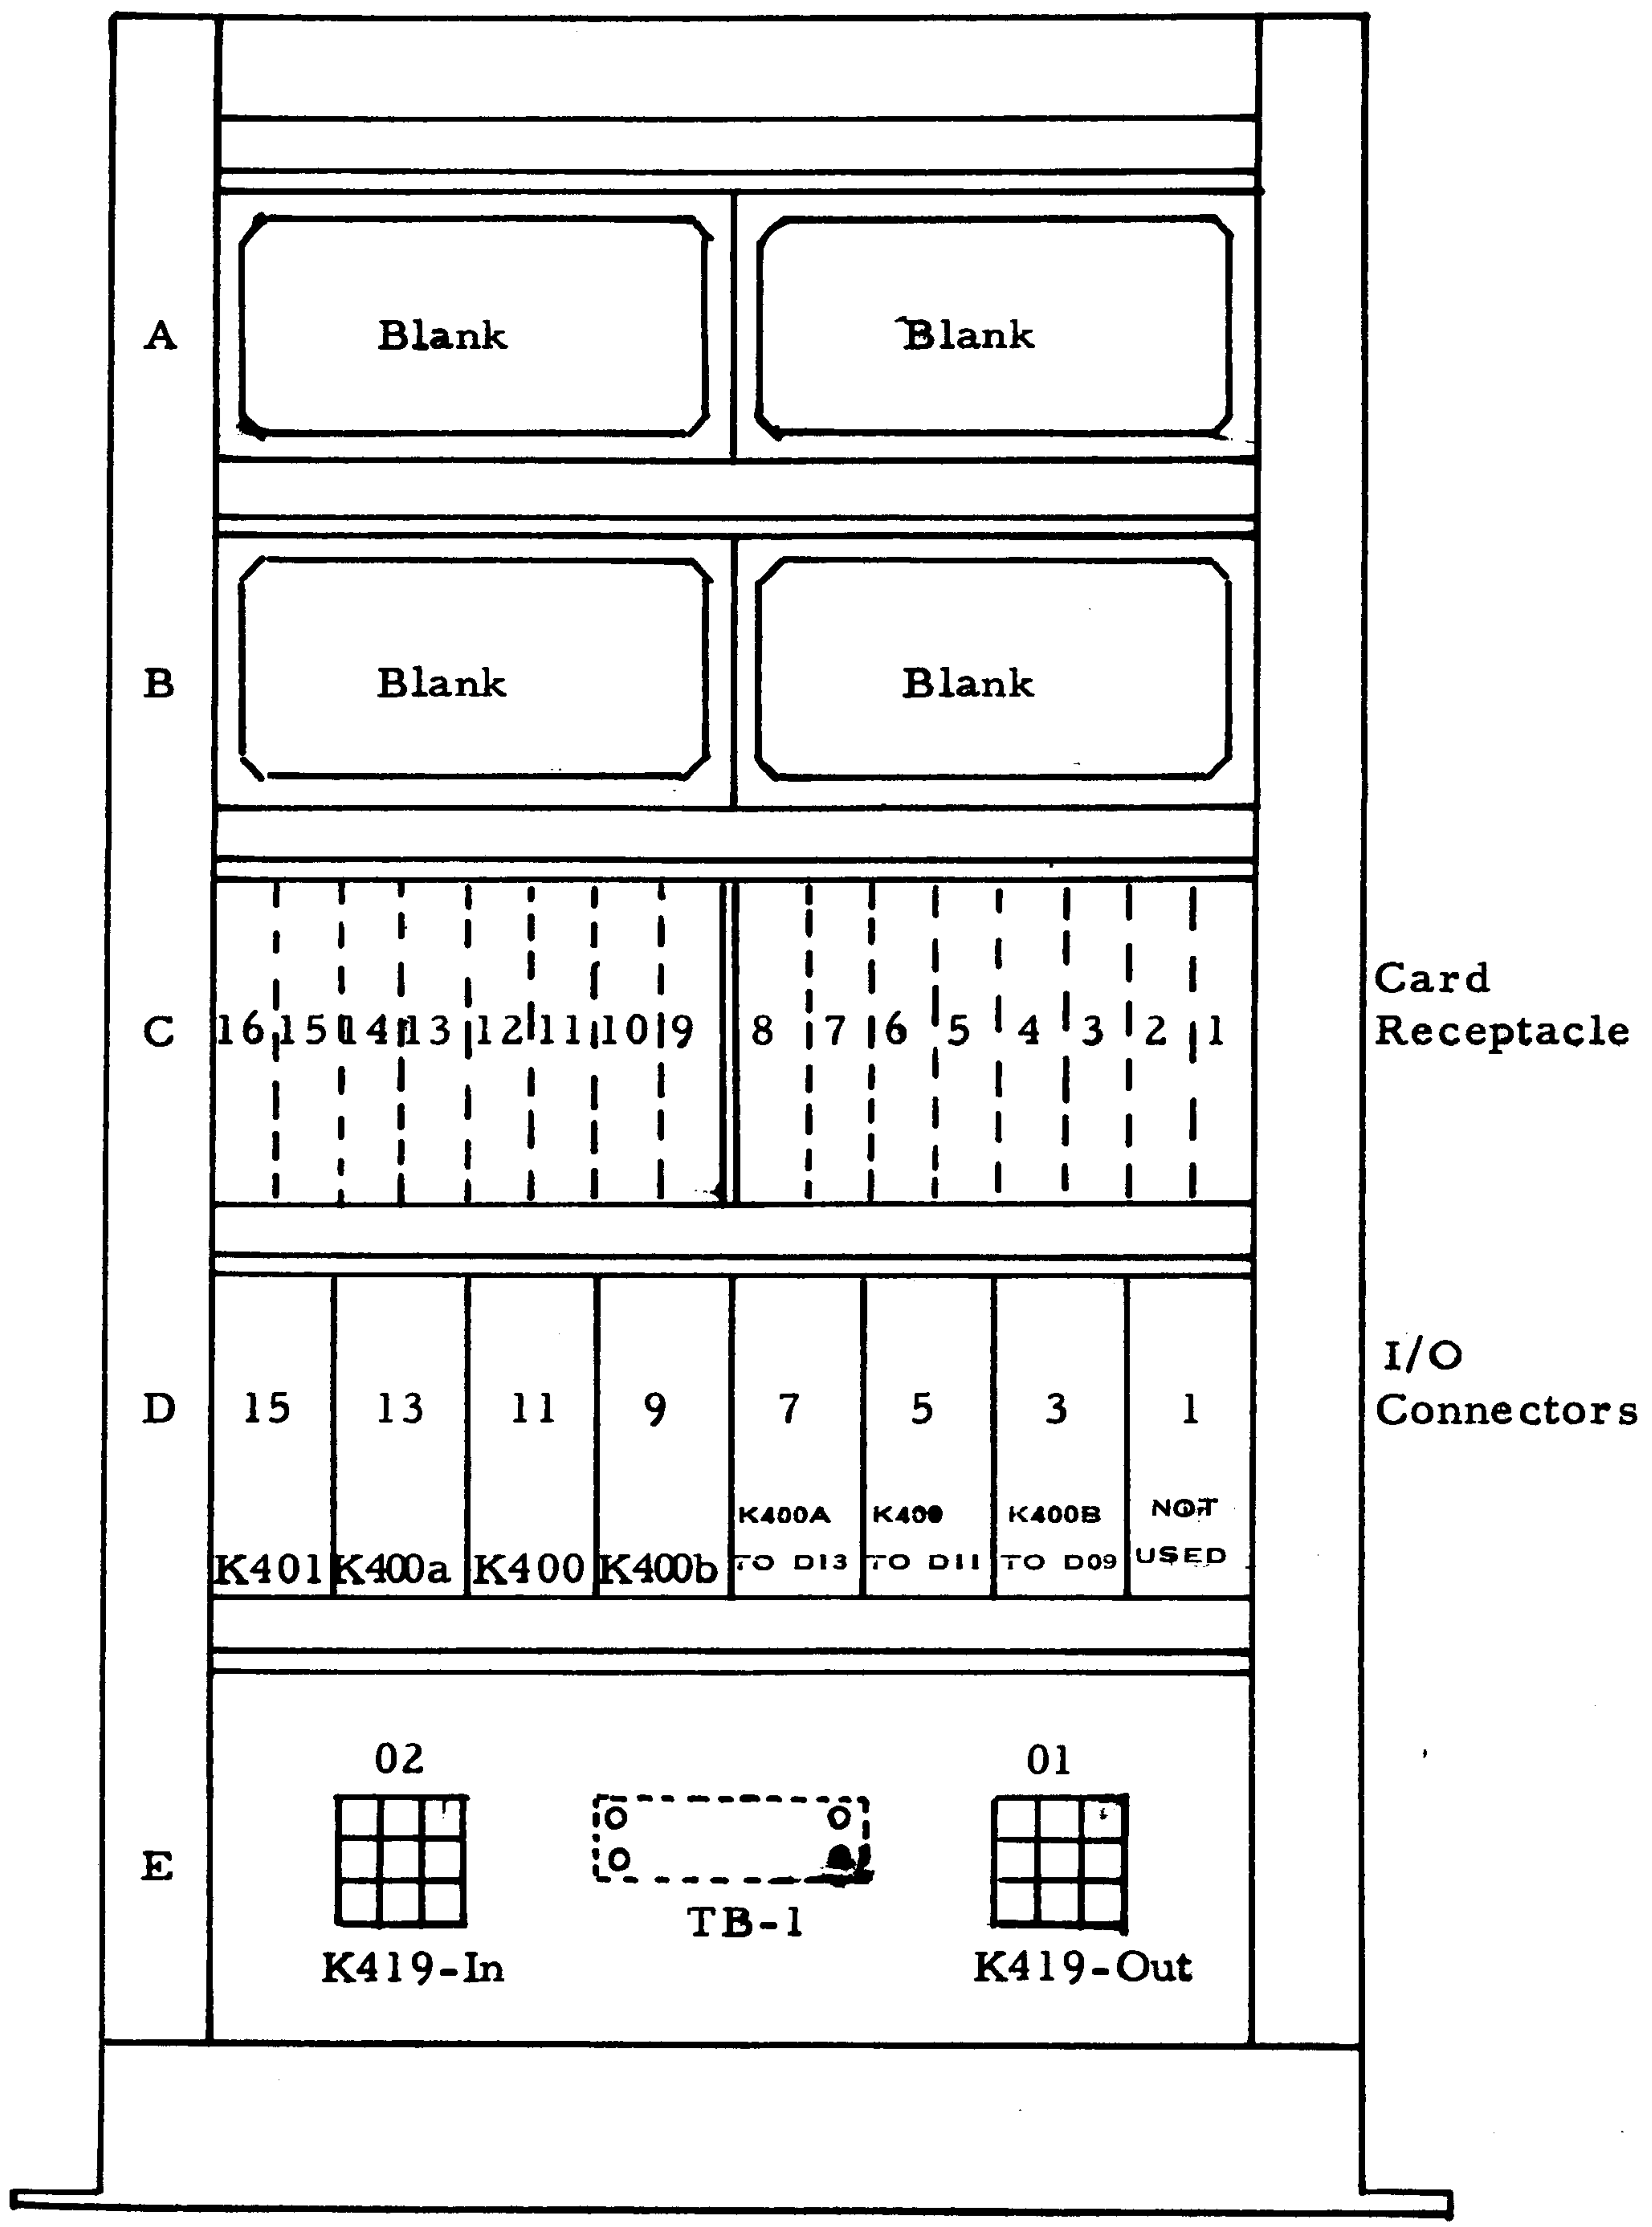

FIGURE AI-4 COMPONENT LOCATION-7320 I/O CONNECTORS
- C. Remove the cable clamp bar from the I/O panel assembly, and install the following key-numbered cables, feeding them up through the entrance slot and around the clamp bar before plugging them in. Also, plug appropriate TCK terminator cards (PN 370334, in 7631 Shipping Group), into C05, 06, 07, 08. The YEQ card, PN 370756 comes plugged into C01. See figure AI-4.